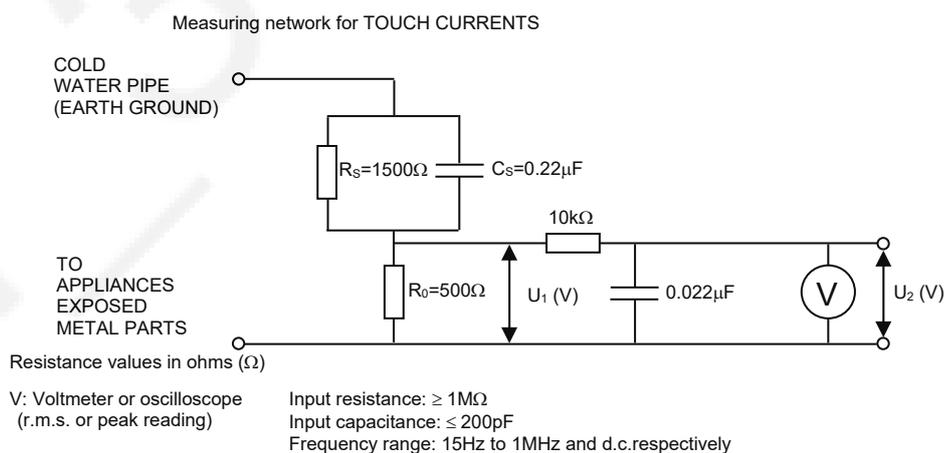

Fig. 1
2. Connect a measuring network for touch currents between each exposed metallic part on the set and a good earth ground such as a water pipe, as shown in Fig. 1.